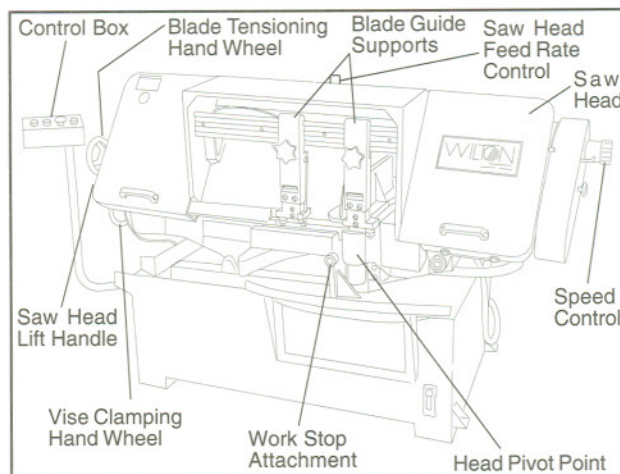

Figure 5: Controls
6. The rate at which the saw head moves downward is controlled by a hydraulic feed rate control located on the top, rear of the saw head (see figure 5).